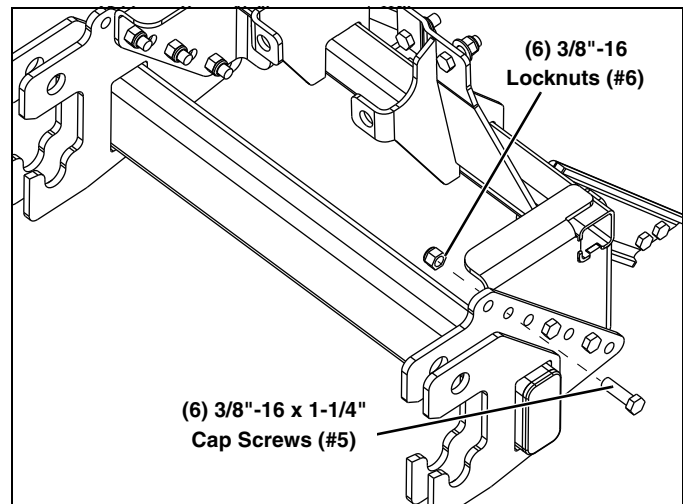

Figure 11
14. Loosely secure the UTV Mount (#1) with (6) 3/8"-16 x 1-1/4" Hex Head Cap Screws (#5) and (6) 3/8"-16 Locknuts (#6). (See Figure 11.)